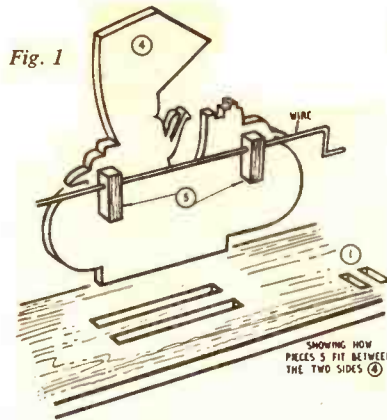
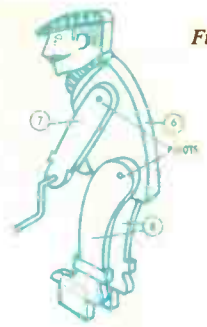

Fig. 1
Fig. 2
Next make up the car (Fig. 1) and motorist (Fig. 2). In Fig. 1 the two blocks (pieces 5) are glued in between the sides (pieces 4) and a length of wire will be inserted later through holes in these blocks. The car assembly can now be glued into the base (1) ensuring that it faces the correct way, of course!
The legs and arms of the man (Fig. 2.) are made to pivot freely on the body, and are secured by screws or sturdy wire nails. The legs (pieces 8) are likewise tenoned into the base.